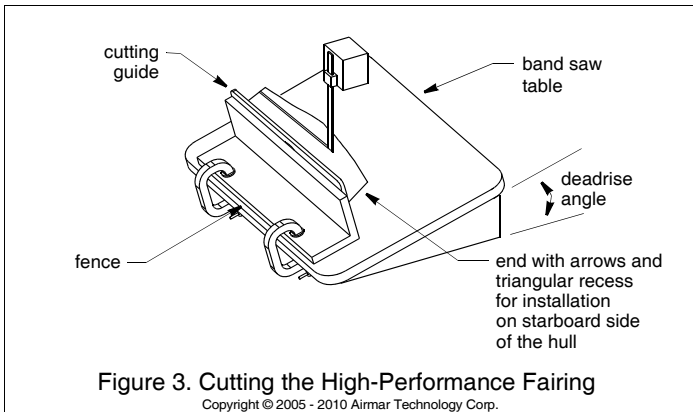

Figure 3. Cutting the High-Performance Fairing
2. Tilt the band saw table to the measured angle and secure the cutting fence (Figure 3). Do not exceed 20°.
4. Adjust the cutting fence, so the fairing will be cut in about two equal parts (Figure 3). The section that will become the fairing must be a minimum of 74mm (2-7/8") at its thinnest dimension (Figure 2).